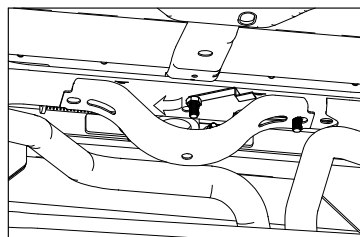

FIGURE F2: View under bed looking from floor to area above axle.
2. **Position the straps.** Using the straps install the bolt guides into the frame cross member just behind the axle, see Figures F2 & F3. The straps on the bolt guides will keep them from turning.